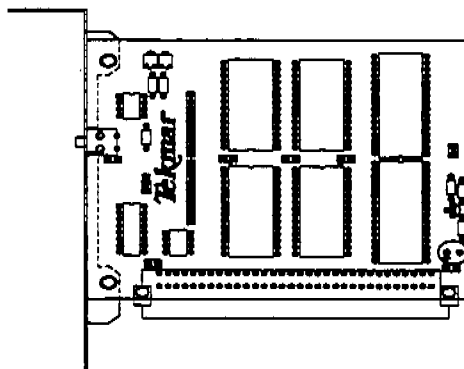

Figure 3-7 Memory Board
2. Locate the memory board (Figure 3-7). It is plugged into the bottom connector.